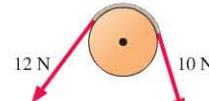

FIGURE P7.37
37. **III** A frictionless pulley, which can be modeled as a 0.80 kg solid cylinder with a 0.30 m radius, has a rope going over it, as shown in Figure P7.37. The tension in the rope is 10 N on one side and 12 N on the other. What is the angular acceleration of the pulley?